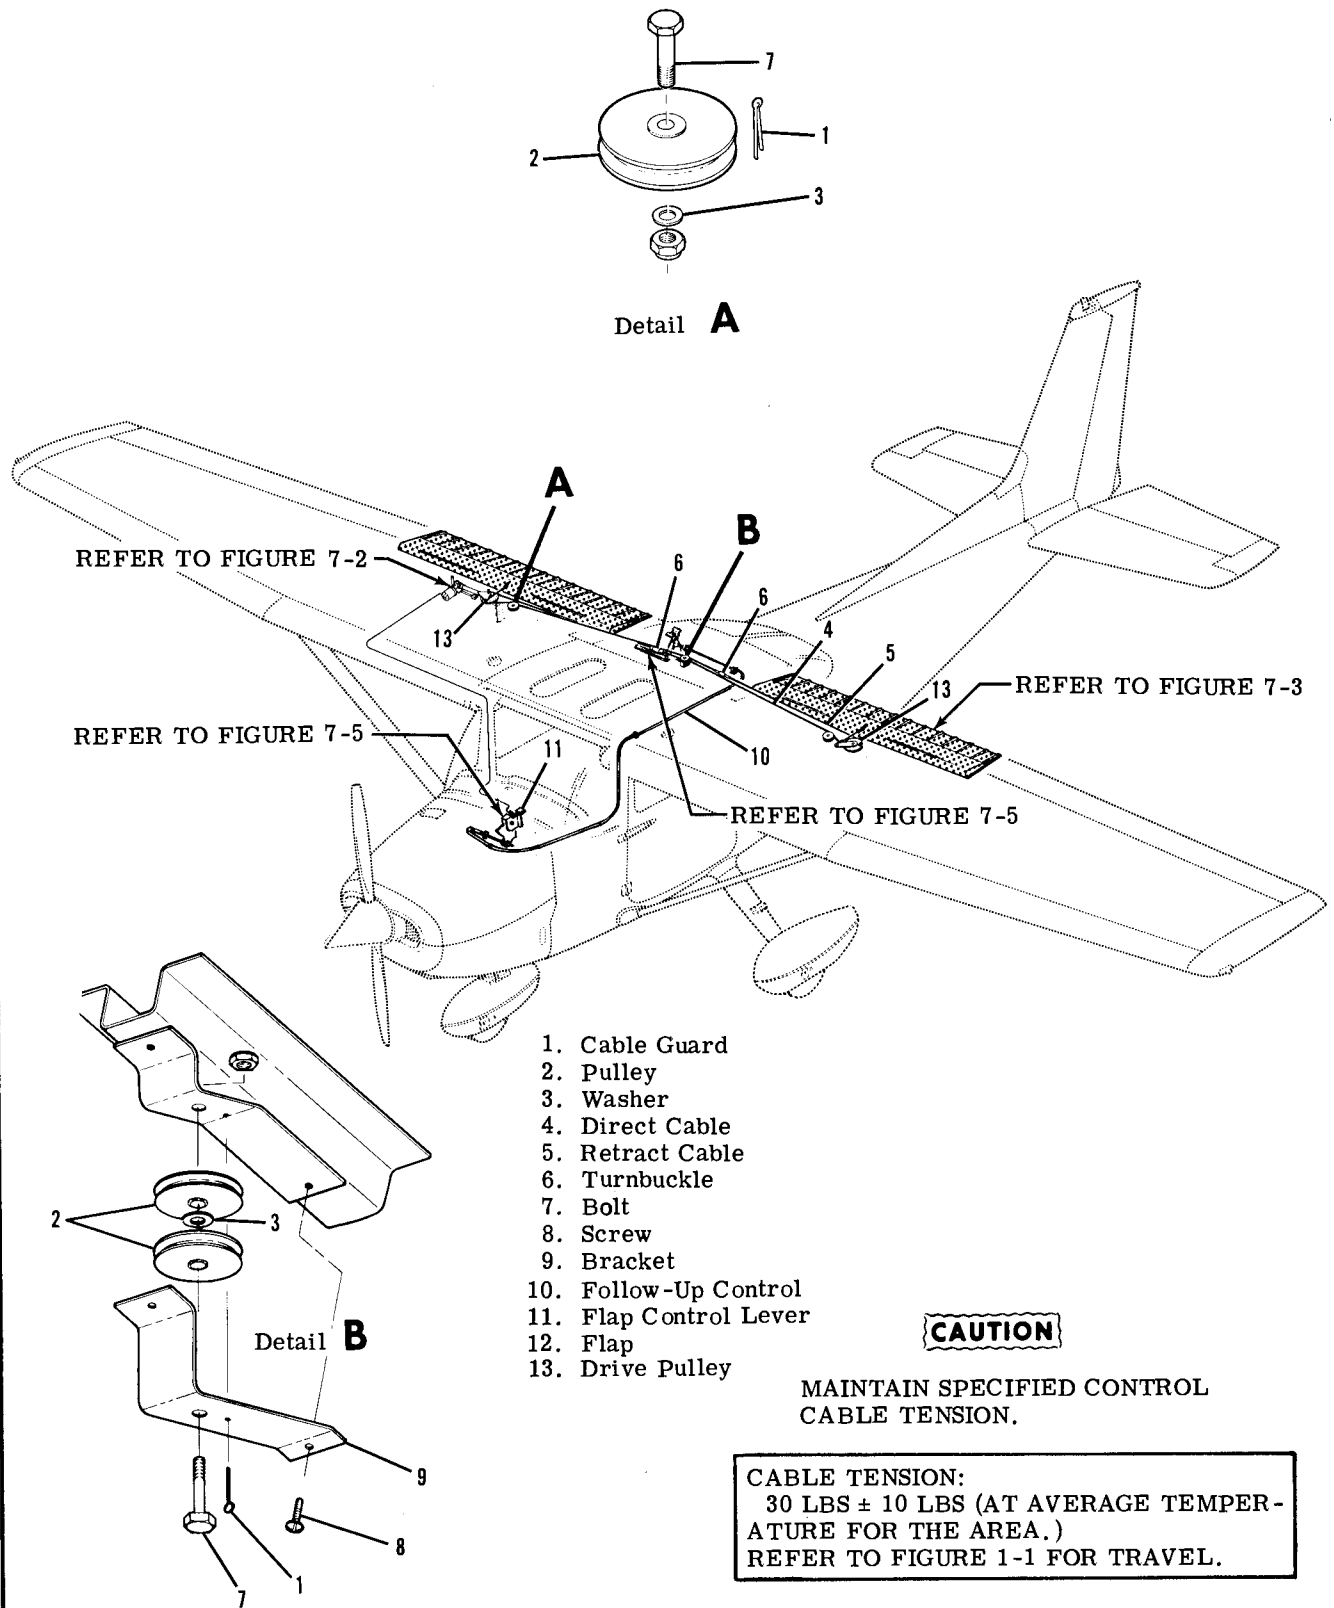

Figure 7-1. Wing Flap Control System
7-1. WING FLAP CONTROL SYSTEM. (Refer to figure 7-1.)
- Remove access plate adjacent to drive pulley (14) in right wing.
- Unzip or remove headliner as necessary for access to turnbuckles (index 6, figure 7-1), remove safety wire and loosen turnbuckles.
- Remove bolt (20) securing flap push-pull rod (15) to drive pulley (14) and lower RIGHT flap gently.
- Remove bolt (21) securing actuating tube (5) to
7-14. CABLES AND PULLEYS. (Refer to figure 7-1.)
- a. (Refer to figure 7-1.) Unzip or remove headliner as necessary for access to turnbuckles (6).
- c. (Refer to figure 7-1.) Remove safety wire, relieve cable tension, disconnect turnbuckles (6) and carefully lower left flap.
Temporarily connect cables at turnbuckles (index 6, figure 7-1) and test flaps by hand to ensure both flaps extend and retract together. If they will not, the cables are incorrectly attached to the drive pulleys. Ensure that the right drive pulley rotates clockwise when viewed from below, as the flaps are extended. Tag cables for reference and disconnect turnbuckles again.
l. With flaps in full UP position, loosen setscrew (27) and slide up limit switch adjustment block (28) on support (31) to just activate switch and shut off electrical power to motor at this position. Tighten setscrew.
m. Manually hold LEFT flap, full UP and connect control cables at turnbuckles (index 6, figure 7-1). Remove reference tags previously installed in step "f".
n. With flaps full UP, adjust turnbuckles to obtain  $30 \pm 10$  pounds tension on cables. Adjust retract cable (19) first.